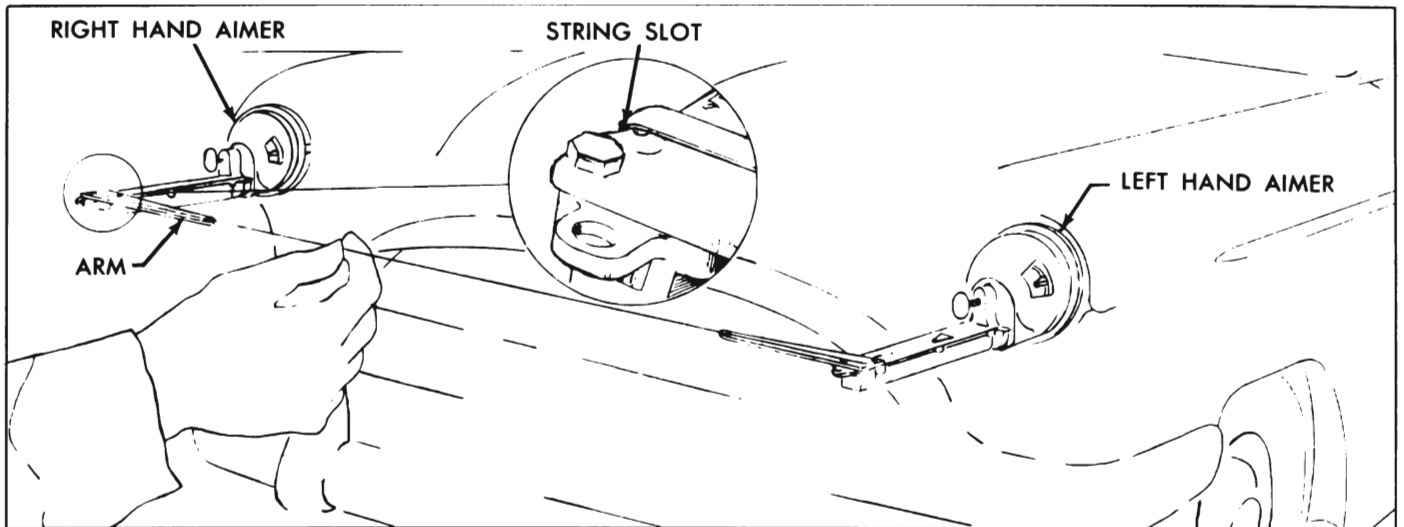

Figure 10-51—Positioning String
5. With aimers in place, position the knots on each end of the elastic string in the slots provided on both aimers. See Figure 10-51. Car doors must be closed and car rocked gently sideways to equalize springs, prior to checking and adjusting headlamps.